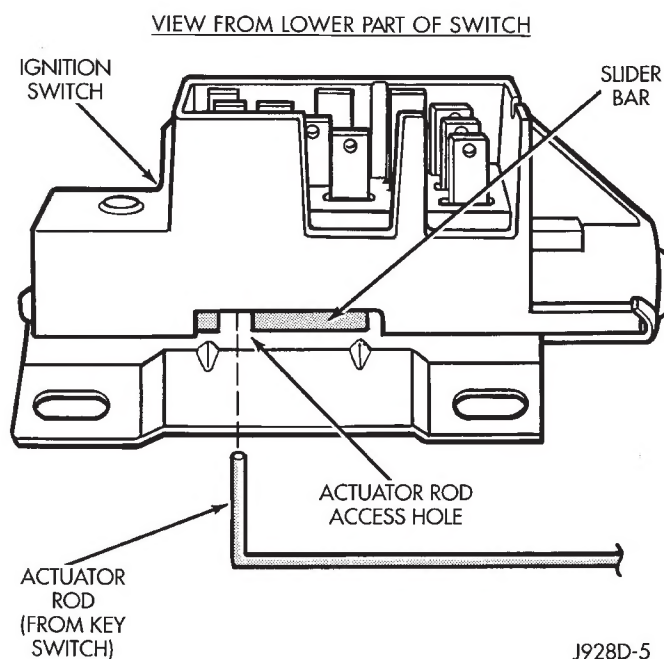

Fig. 12 Ignition Switch/Remote Actuator Rod—Typical
The switch is connected to the ignition key assembly by a remote actuator rod. This remote actuator rod fits into an access hole on the bottom of the ignition switch (Fig. 12).
To test the ignition switch circuitry and continuity, proceed as follows. Place the slide bar (on the ignition switch) (Fig. 12) into the detent position to be tested. An ohmmeter or continuity light may be used to check switch continuity. Refer to the Ignition Switch Continuity Tests chart for continuity tests. Refer to (Fig. 13) for the lettered/numbered terminal positions. **All wiring must be disconnected from the ignition switch before performing any continuity testing.**
(1) Place the key lock switch in the ACCESSORY position.
(2) Place the slider bar (in the ignition switch) (Fig. 12) into the ACCESSORY detent position.
(3) Connect the wiring to the switch as follows: Install the non-black (colored) connector first and then the black (colored) connector to the ignition switch. One connector will interlock the other connector.
(4) Slip the remote actuator rod into the access hole on the switch (Fig. 12). Install the switch to the steering column. Be careful not to move the slider bar (on the switch) out of the ACCESSORY detent position. Remove the ignition switch actuator rod securing-tape from steering column.